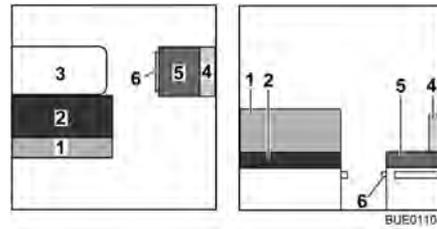

Fig. 121 Prior to conversion
- Convert the table (Fig. 121,3) to a bed foundation (see section 6.10).
- Remove the back cushion (Fig. 121,1) and lay it aside.
- Remove the back cushion (Fig. 121,4) and the seat cushion (Fig. 121,5) and lay them aside.